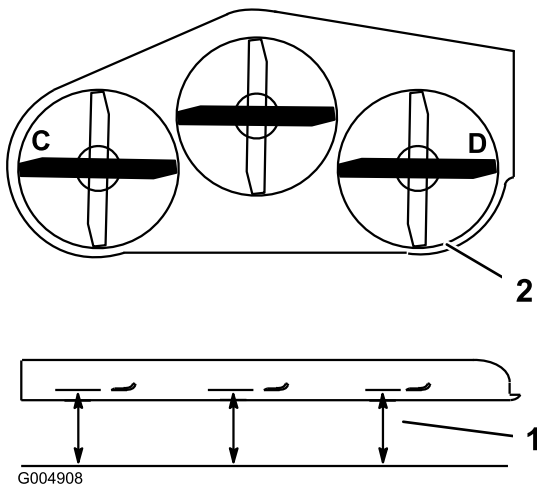
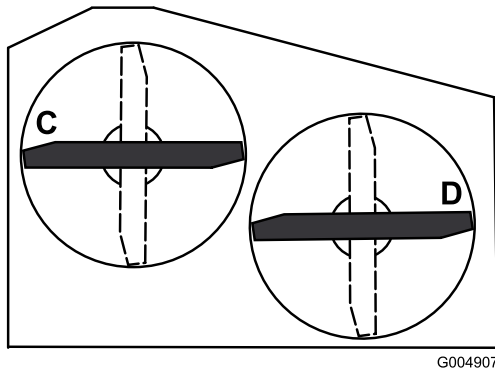

Figure 67
Figure 68
2. Position the blades side-to-side. Measure at **C** and **D** locations from a level surface to the cutting edge of blade tips (Figure 67). For 36 inch mower decks use Figure 68.